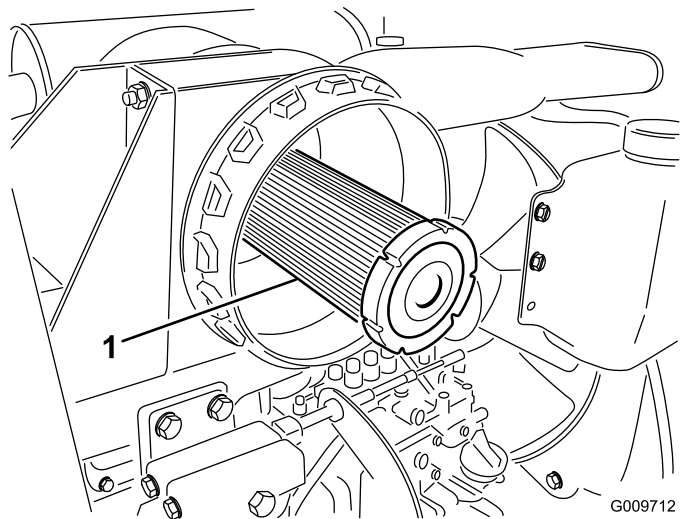

Figure 58
**Important:** Never attempt to clean the safety filter (Figure 58). Replace the safety filter after every 3 primary filter services.